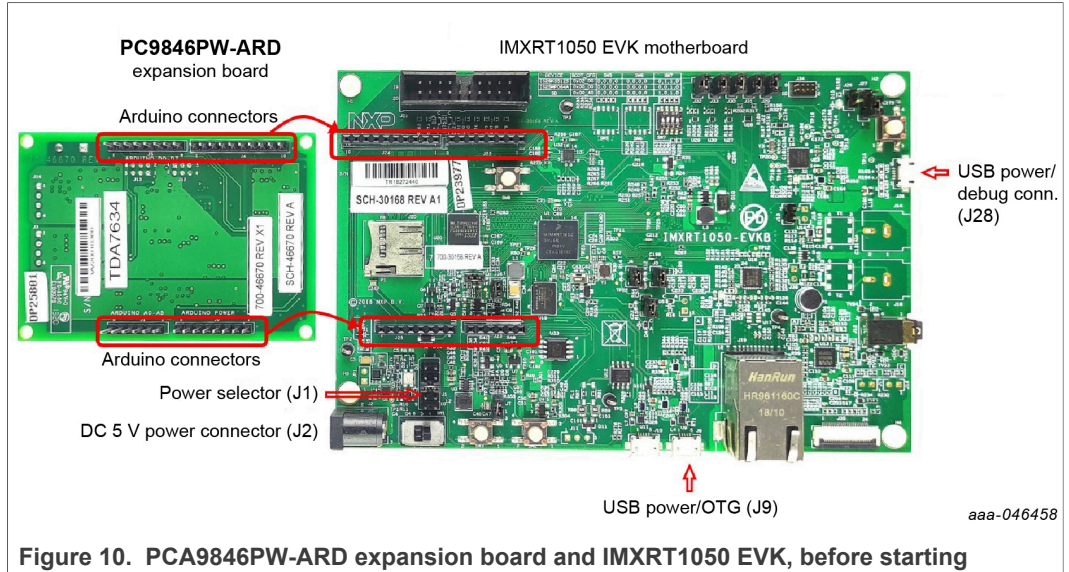

Figure 10. PCA9846PW-ARD expansion board and IMXRT1050 EVK, before starting
Figure 10 shows the required hardware for operation of the PCA9846PW-ARD expansion board with IMXRT1050 EVK. The following items are necessary:
From J1 on the EVK board, see Figure 10, the user can select the power configuration for the motherboard. Refer to IMXRT1050 EVKB Board Hardware User's Guide^[2].
2. Insert the PCA9846PW-ARD expansion card on the Arduino connector of the EVK. See Figure 10.